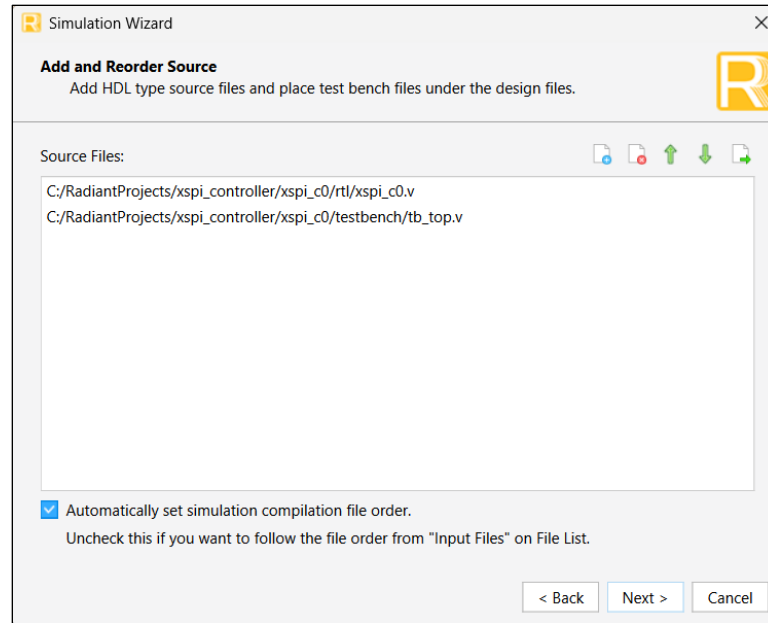

Figure 7.10. Add and Reorder Source
- Click **Next** to open the **Add and Reorder Source** window as shown in Figure 7.10. Note that only two files are listed, *tb_top.v* and the generated IP wrapper file. If there are other files, they must be removed. Otherwise, this may cause a failure in the compilation and simulation.